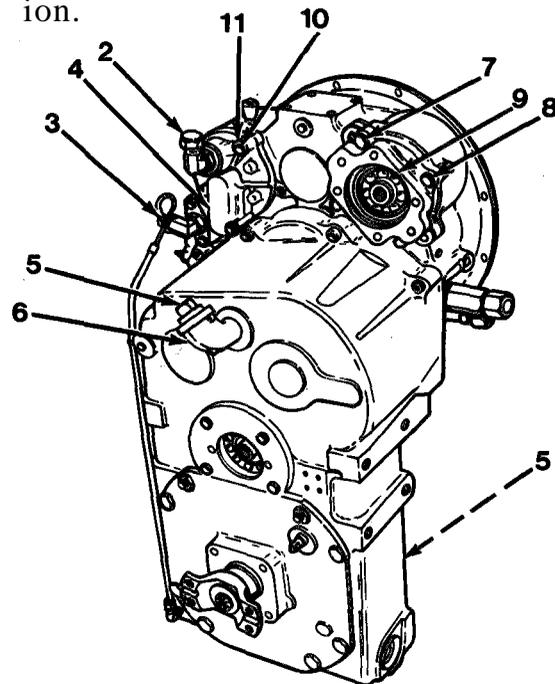

Figure 11-2
6. Remove elbows (2) and (3) from charge pump assembly (4, Figure 11-2).
7. Remove two plugs (5) and elbow (6) from transmission.